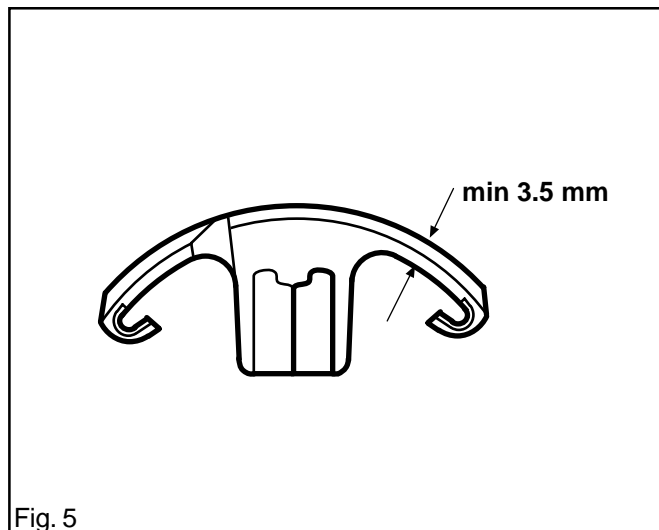

Fig. 5
1. The lining thickness on the clutch shoes must not be less than 3.5 mm at the most worn point. See fig. 5.
1. The taper on the adjuster screw (E) should not have any wear marks. See fig.5.
2. The eccentric face on the pump piston should not have any wear marks. See fig.5.
3. The gear on the pump piston should be undamaged. See fig. 5.